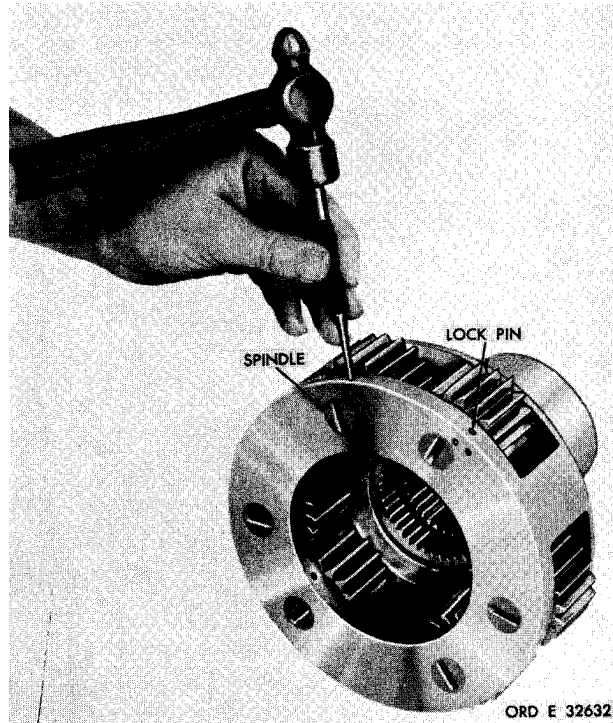

Figure 213. Removing (or installing) spindle lock pins
d. Using a hammer and punch, remove six lock pins retaining the planetary carrier spindles (fig. 213).
and punch (fig. 213). Drive the lock pin flush to 0.030-inch below the carrier surface.